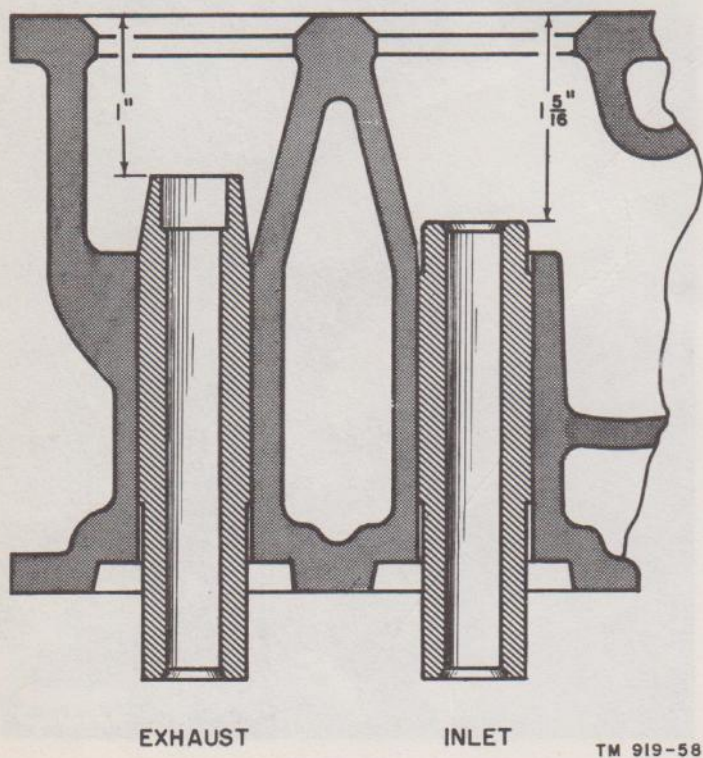

Figure 58. Position of valve guides.
(1) Replace the valve guides (18) by using a valve guide driver. Position the exhaust valve guide 1 inch and the intake valve guide 1-5/16 inch below the top face of the cylinder block as shown in figure 58.
(2) Assemble the valve springs (16) and rotocaps (17) in the engine with the closed coils of the springs placed against the cylinder block.
(3) Install the valves (15) in the same positions from which they were removed.
(4) Compress the springs on the valves which are in closed position. Insert the valve locks (14) in the valve stem groove. Turn the crankshaft until the open valves become closed and install the remaining valve locks.